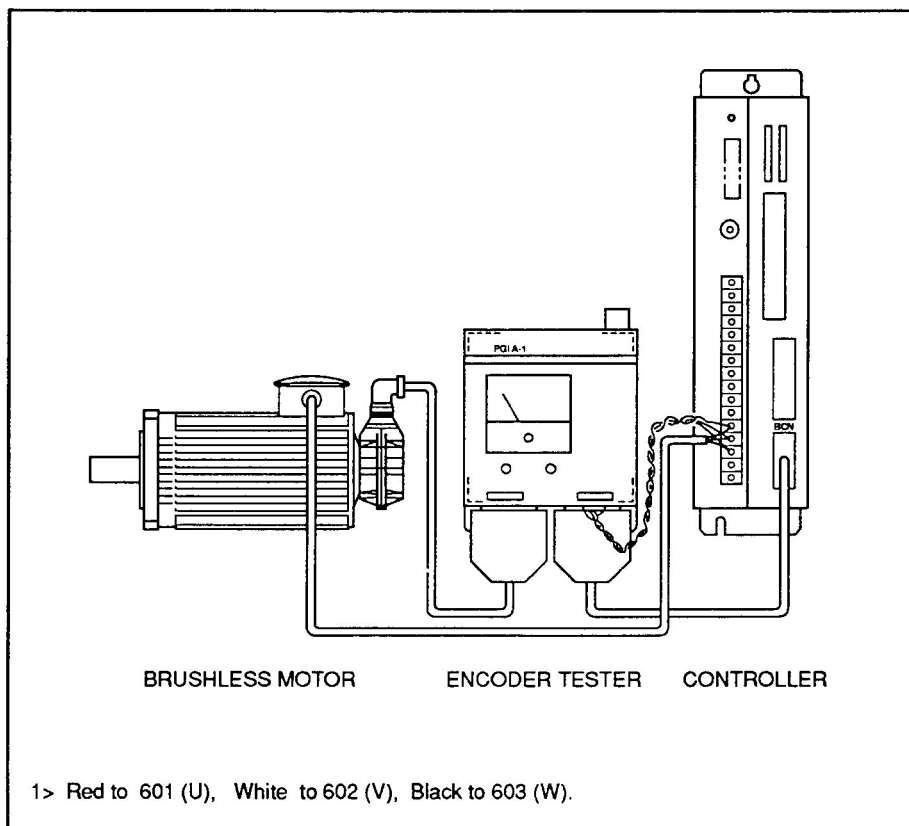

Figure 3. Connection Diagram.
5. Disconnect the encoder cable from 3CN on the face of the controller hinged panel and reconnect it to 1CN (FR PG) on the Encoder Tester. See Figure 3.
6. Clip the red, white, and black leads of the Encoder Tester cable to terminals 601 (U), 602 (V), and 603 (W), respectively, on the faceplate of the controller. Note: The correct phase divergence cannot be indicated if these leads are not connected to the respectively labeled terminals. See Figure 3.